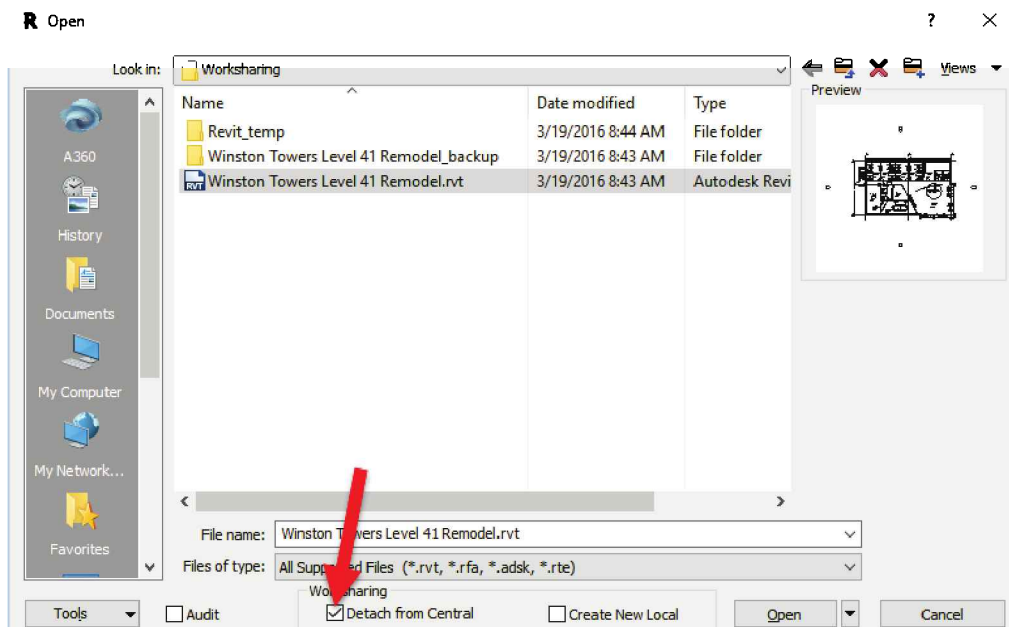

FIGURE 16-2.11 Detach from Central checked; open dialog
- Check the **Detach from Central** option (Figure 16-2.11)